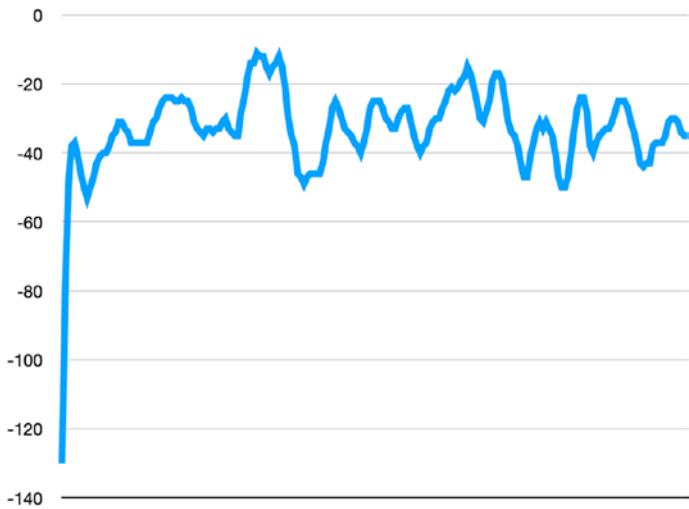
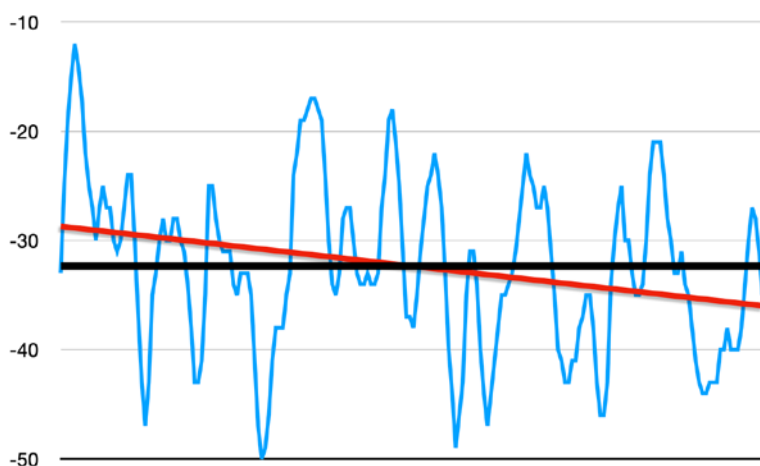

**Figure 9-1.** *Plot of Z-axis raw values immediately after activation*
**Figure 9-2.** *Plot of Z-axis raw value long after “warm up”*
I ran TestFXASCore again. Figure 9-1 shows a plot of the output (200 values or 4 seconds) starting *immediately after activation*, with the same conditions. Note two important characteristics:
Figure 9-2 shows the 200 samples after the data shown in Figure 9-1, for the same period and configuration. There is no “warmup,” but it too shows randomness in the values. The mean = -32.3 and is shown by the thick horizontal line; the mean estimates the *zero-rate offset* (for the sake of brevity, I’ll use “zero offset” henceforth) for the time period. The standard deviation = 7.9. The diagonal line plotted in Figure 9-2 shows the trend line for the values; it suggests that the zero offset changes over time, even over the four-second period. Not good news.
The results in Listing 9-6 and Figures 9-1 and 9-2 show clearly you cannot treat the Z raw value, or its converted counterpart, as “real.” You have to do a fair amount of work on any such data prior to believing it is “real.” I’ll discuss that work later in this chapter.
**Tip** I created Figures 9-1, 9-2, and others later in this chapter using a spreadsheet application. I’ve found it to be a valuable tool when working with sensors to help visualize sensor data.